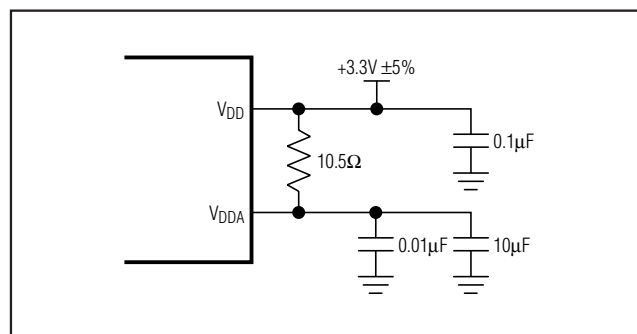

Figure 4. Analog Supply Filtering
- Note 1:** A series resistor of up to 10.5Ω is allowed between V_{DD} and V_{DDA} for filtering supply noise when system power-supply tolerance is $V_{DD} = 3.3V \pm 5\%$. See Figure 4.
The MAX3629 is a mixed analog/digital IC. The PLL contains analog circuitry susceptible to random noise. To take full advantage of on-board filtering and noise attenuation, in addition to excellent on-chip power-supply rejection, this part provides a separate power-supply pin, V_{DDA} , for the VCO circuitry. The purpose of this design technique is to ensure clean input power supply to the VCO circuitry and to improve the overall immunity to power-supply noise. Figure 4 illustrates the recommended power-supply filter network for V_{DDA} . This network requires that the power supply is $+3.3\text{V} \pm 5\%$. Decoupling capacitors should be used on all other supply pins for best performance.